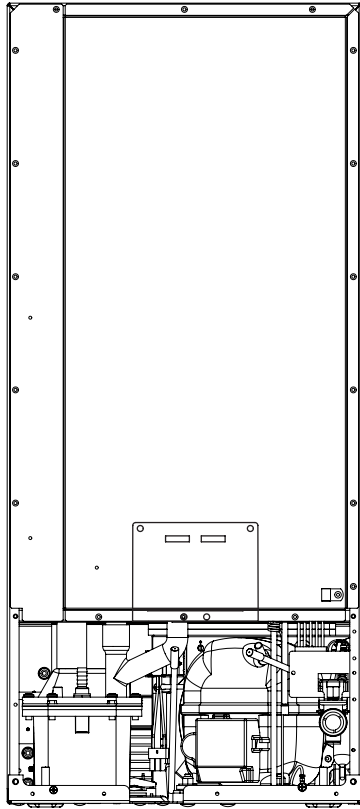

Figure 48
7. Disconnect the water valve's outlet water line to the reservoir and drain the remaining water left in the water line trap area. (See Figure 48 and 48a).
8. Reconnect the water valve outlet water line. (See Figure 48 and 48a).